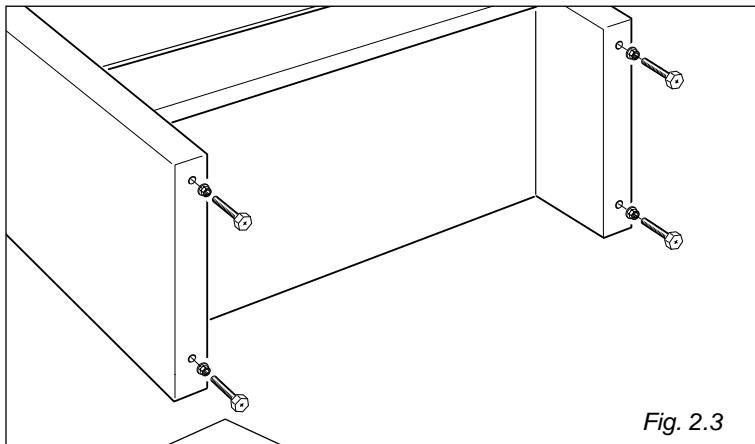

Fig. 2.3
- Rest the rear of the cooker on a piece of the polystyrene packaging exposing the base for the fitting of the feet (figure 2.3).